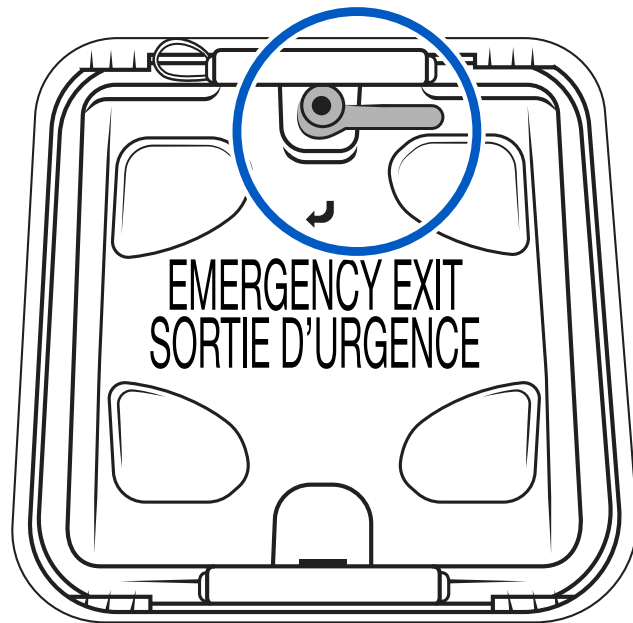

Figure 13 - Emergency roof hatch
1. Turn the red lever clockwise (Figure 13).